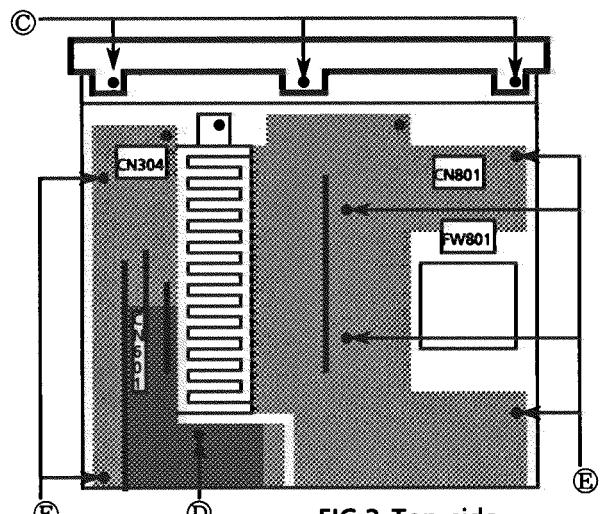

FIG.2 Top side
2. Remove 3 screws Ⓒ on the bottom side and 3 screws Ⓓ on the top side.(FIG.2,4)
2. Remove 5 screws Ⓗ and Ⓘ.(FIG.2,3)
4. Remove 6 screws Ⓖ.(FIG.2)